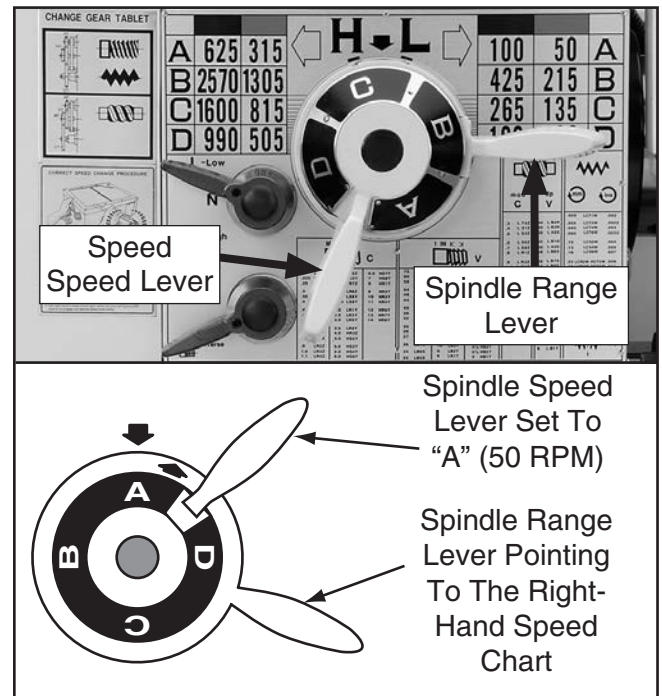

Figure 27. Spindle speed set to 50 RPM.
- Move the spindle range lever so that the arrow on top of its hub is pointing toward the right-hand spindle speed chart (see **Figure 27**).